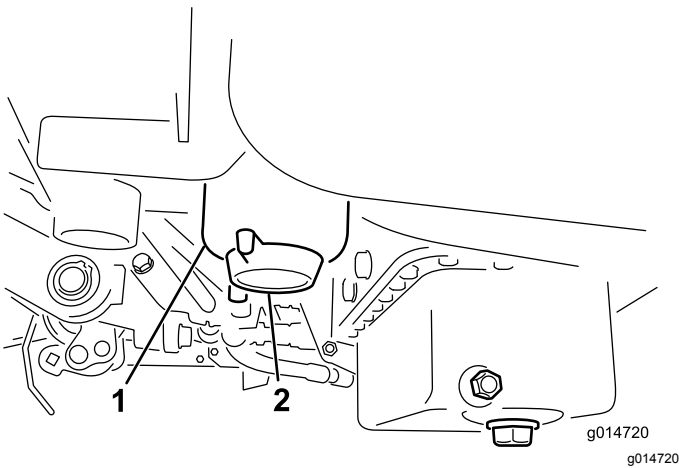

Figure 42
2. Clean the area where the filter canister mounts (Figure 42).
4. Open the filter drain plug (Figure 42).